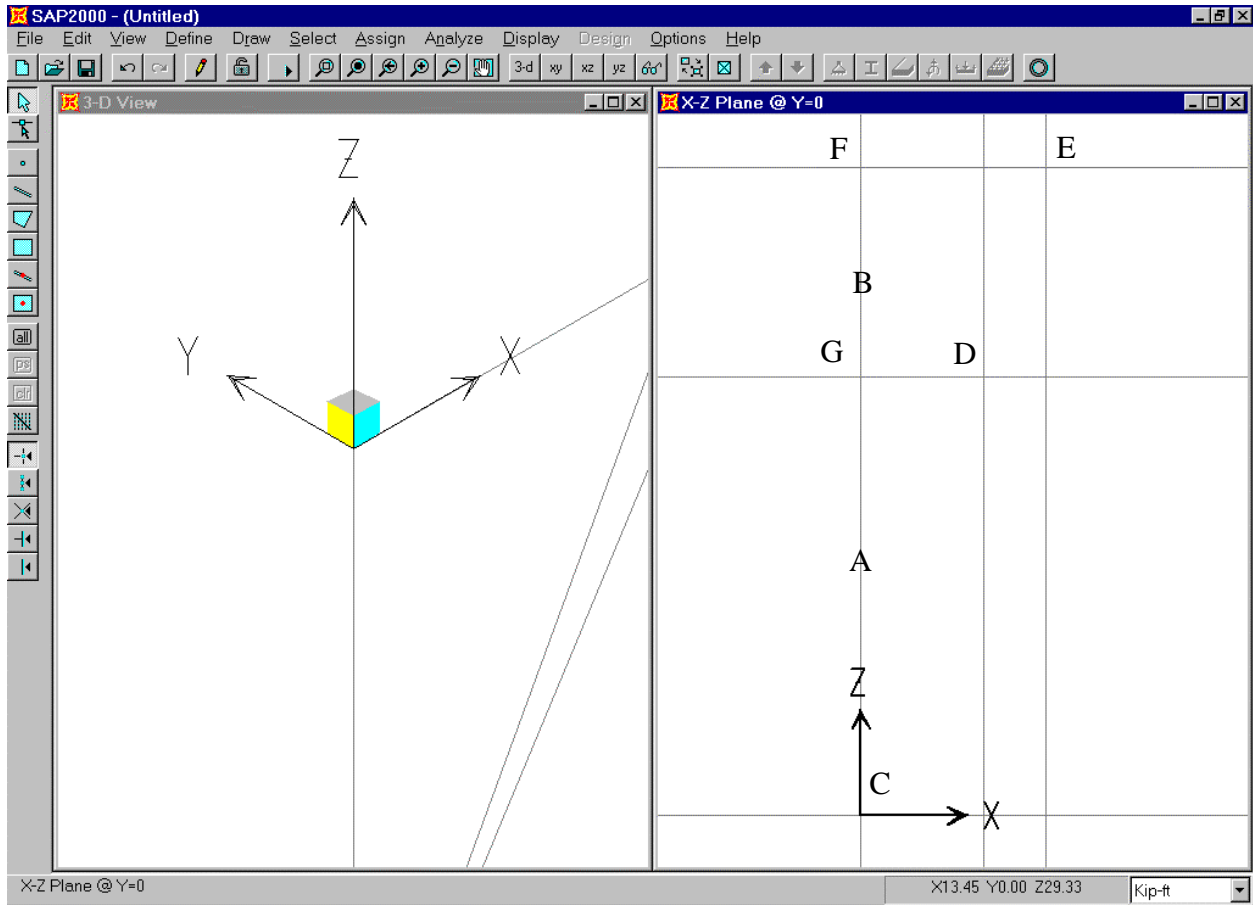

Figure C-1: Initial Grid Layout In X-Z Plane
9. Click on the grid line at the point labeled “A” in Figure C-1 to enter a frame element.
10. Click on the grid line at the point labeled “B” in Figure C-1 to enter another frame element.
12. Click on the points labeled “C”, “D”, and “E” in Figure C-1, in that order, and then press the Enter key on the keyboard to draw two more frame elements.
13. Click on the point labeled “F” and then double click the point labeled “E” in Figure C-1 to draw the next frame element.
Note: You could have single-clicked the point labeled “E” in Figure C-1 and then pressed the Enter key on the keyboard to finish drawing the frame element.
14. Click on the point labeled “G” and then double click the point labeled “D” in Figure C-1 to draw the next frame element.
15. Click on the point labeled “D” and then double click the point labeled “F” in Figure C-1 to draw the next frame element.